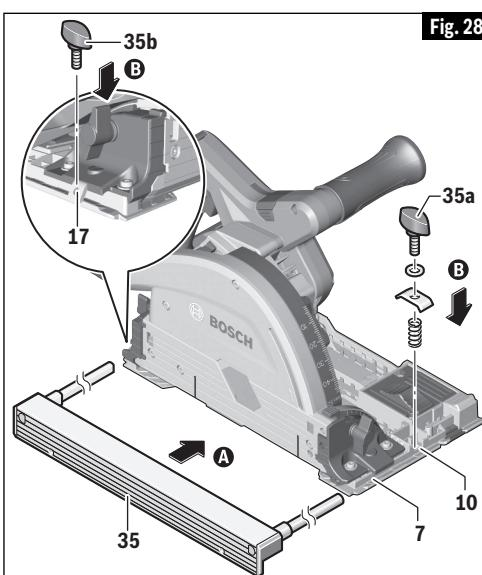

Fig. 28
- A. Slide the guide rods of rip fence **35** through the guides in footplate **7** (Fig. 28).
- B. Thread the wing bolt assembly **35a** into front mounting **10**. Thread the wing bolt **35b** into rear mounting **17**. Do not tighten the wing bolts yet (Fig. 28).